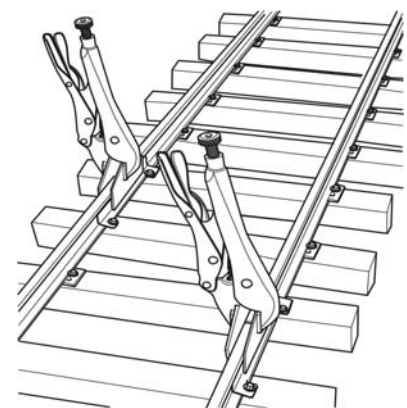

Figure 8
3. Clamp the rails together with sheet metal vice grips and repeat Steps 1 and 2 for the next section of track. Refer to Figure 8.